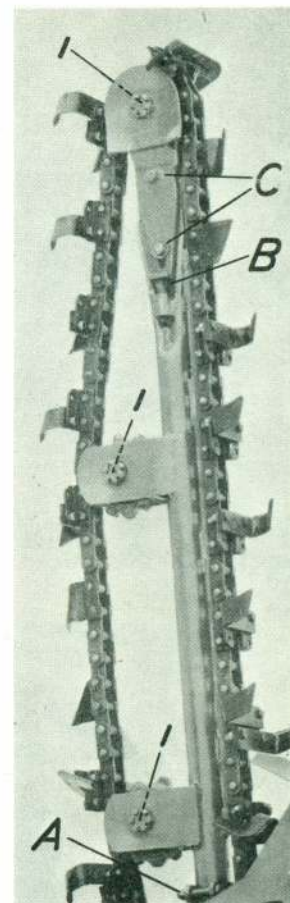

Figure 6.
Grease twice daily at (1) (all boom rollers) on Figure 6.